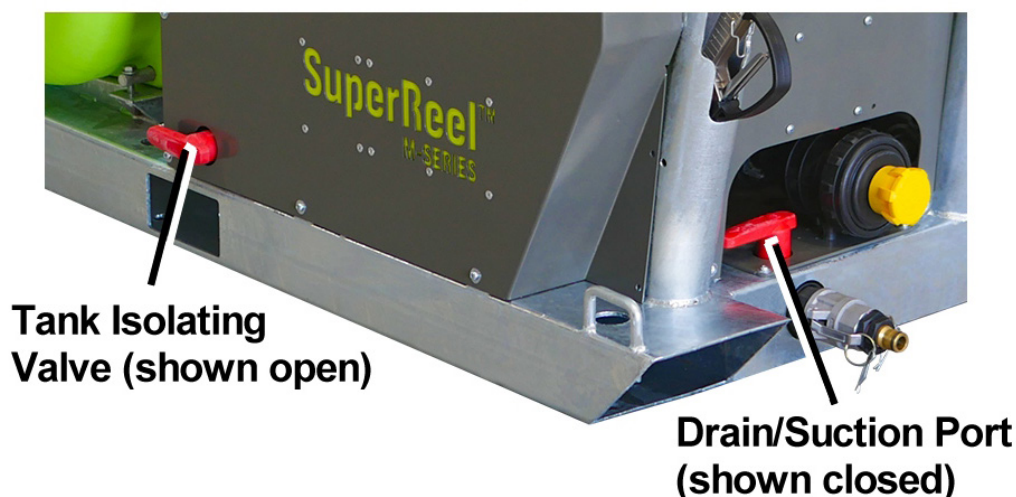

Figure 12 – SuperReel M-Series sprayer's Tank Isolating Valve and Drain/Suction Port
1. After spraying operations are complete, connect a hose (not supplied) to the 1¼" drain port camlock coupling (refer to Figure 12), with the other end connected to a clean water supply, such as a tank.
2. After spraying operations are complete, connect a hose (not supplied) to the 1¼" drain port camlock coupling (refer to Figure 12), with the other end connected to a clean water supply, such as a tank.